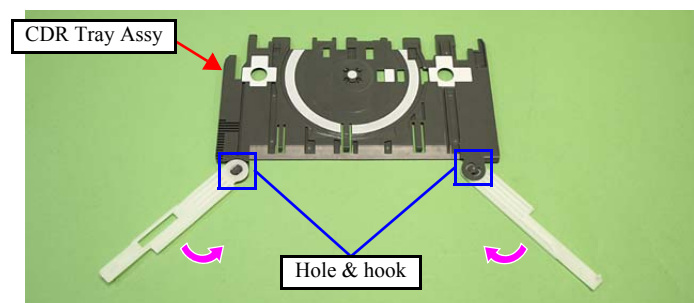

Figure 4-96. Reassembling the CDR Tray Assy
- If an arm comes off, place it to the CDR Tray at an angle as shown in Fig. 4-96, and insert the hole of the arm into the hook on the tray, then rotate it in the direction of the arrow to engage the arm to the tray.